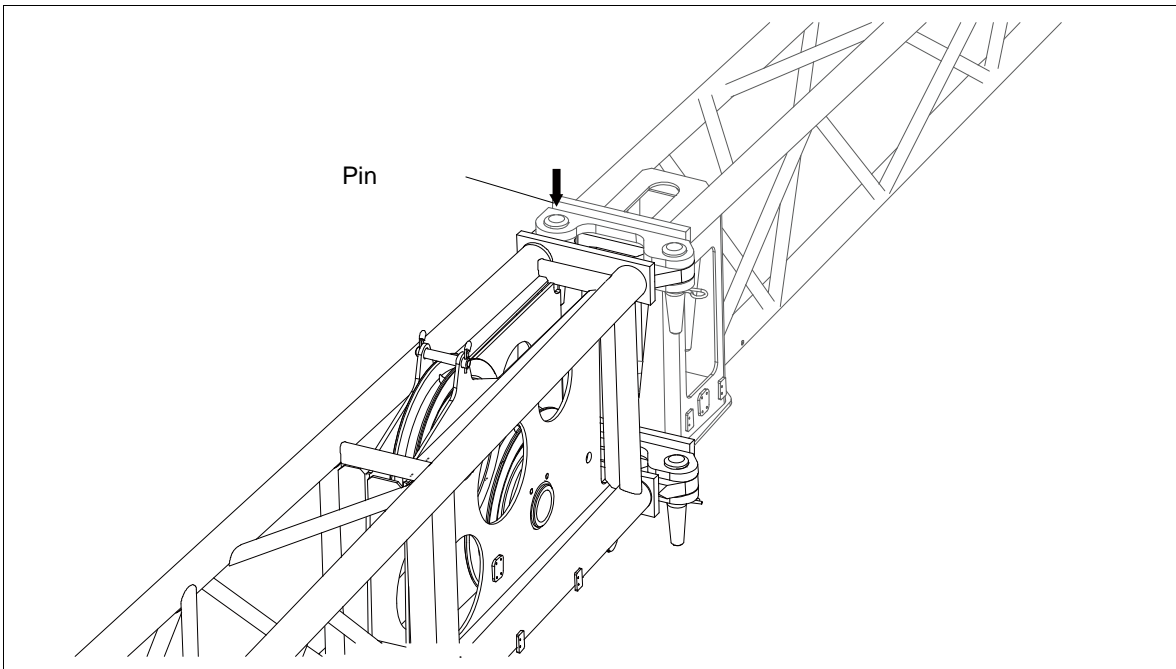

Figure 7-44 Pin IX installation
- Q. Align the end of the jib section 2 with connection points on the jib section 1. Install the pin IX and the retaining clip. Refer to Figure 7-44.